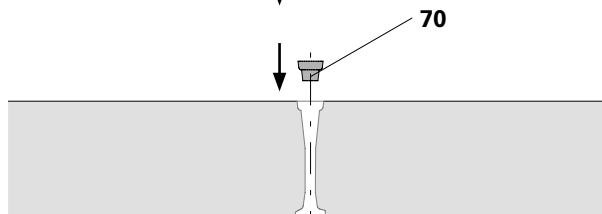

Fig. E1.02b
5. Remaining holes can be sealed by gluing in KK Concrete Cones M24-67/52 (70). (Fig. E1.02b + E1.02c)